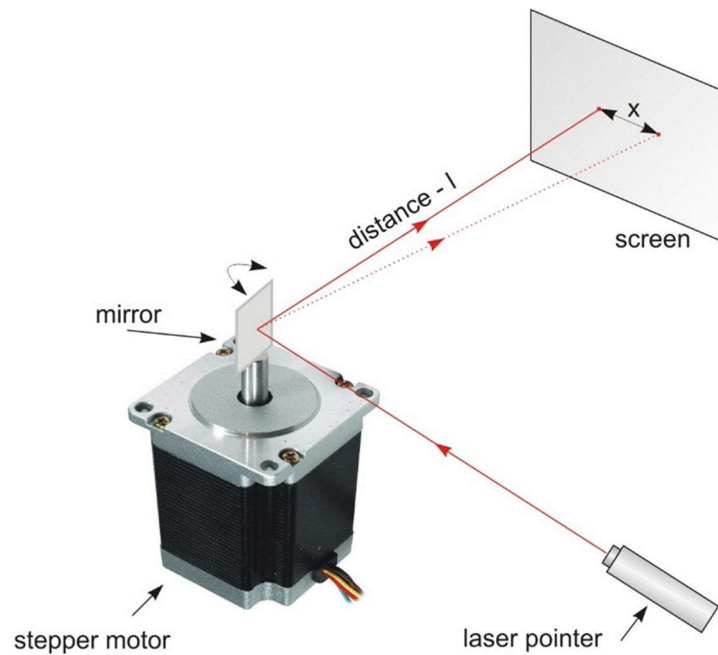

Figure 4. Measurement setup for stepper motor resolution determination (alternatively the laser pointer can be fixed on motor shaft).
3. Using above setup in Figure 4 determine maximum motor speed for different operation modes (full-, half-, micro-steps); perform 1 or 2 full rotations with small speed and observe if the laser spot return to its start position; increase speed (*decrease the delay between steps in controller*) and determine the speed when final laser spot position change (motor steps will be lost); Repeat this for all four maximum winding currents (different jumper position P1x-P2x) – Tab.2